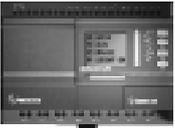

Fig. 1.5 Setup Type Window
5. After setting the destination folder, click [Next] to enter the Setup Type Window as shown in Fig. 1.5. Please select your desired installation type.